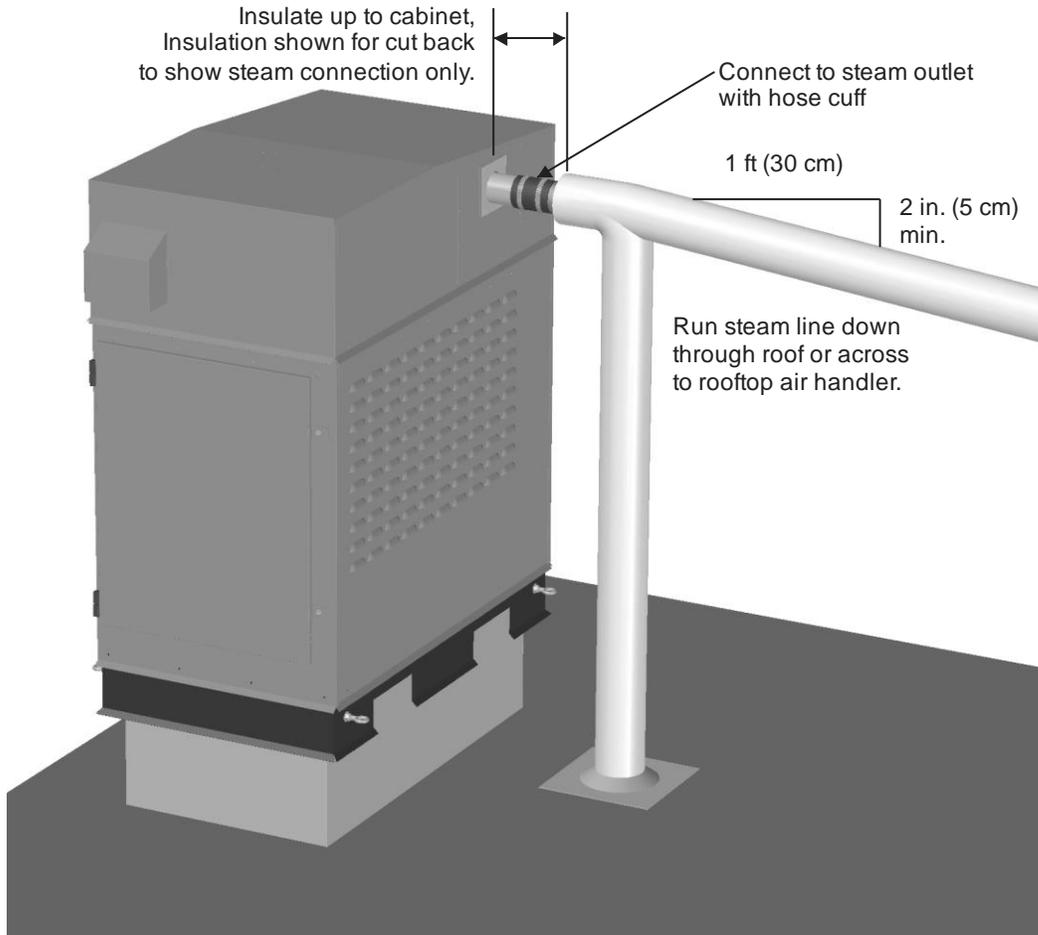

Figure 26: SETC Outdoor Steam Outlet
- The Steam outlet(s) of the SETC Outdoor is from the back of the humidifier and unlike the indoor model does not require 12 in. (30 cm) of vertical steam run immediately after the humidifier. The steam line may be routed directly down or horizontally from the outlet. See Figure 26: SETC Outdoor Steam Outlet.